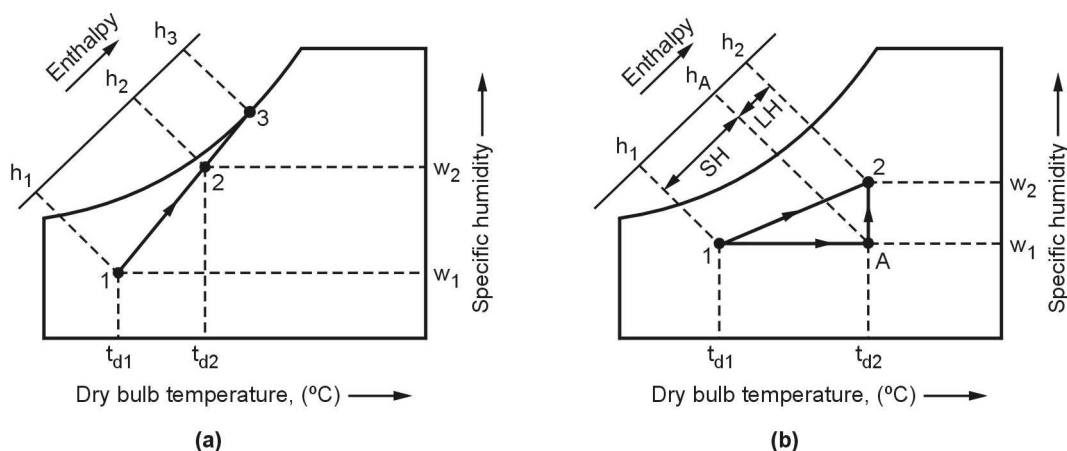

Fig. 5.82 : Heating and humidification
- The process of heating and humidification is represented by line 1-2 on psychrometric chart as shown in Fig. 5.82.
- During this process, the specific humidity, DBT, WBT, DPT and enthalpy of air increases whereas RH of air may increase or decrease. The air enters at state 1 and leaves at state 2 as shown in Fig. 5.82.
The heating and humidification process shown by line 1-2 is assumed to have followed the path 1-A (i.e. heating) and A-2 (i.e. humidification) as shown in Fig. 5.82 (b). Thus, the total heat added to the air during heating and humidification is,